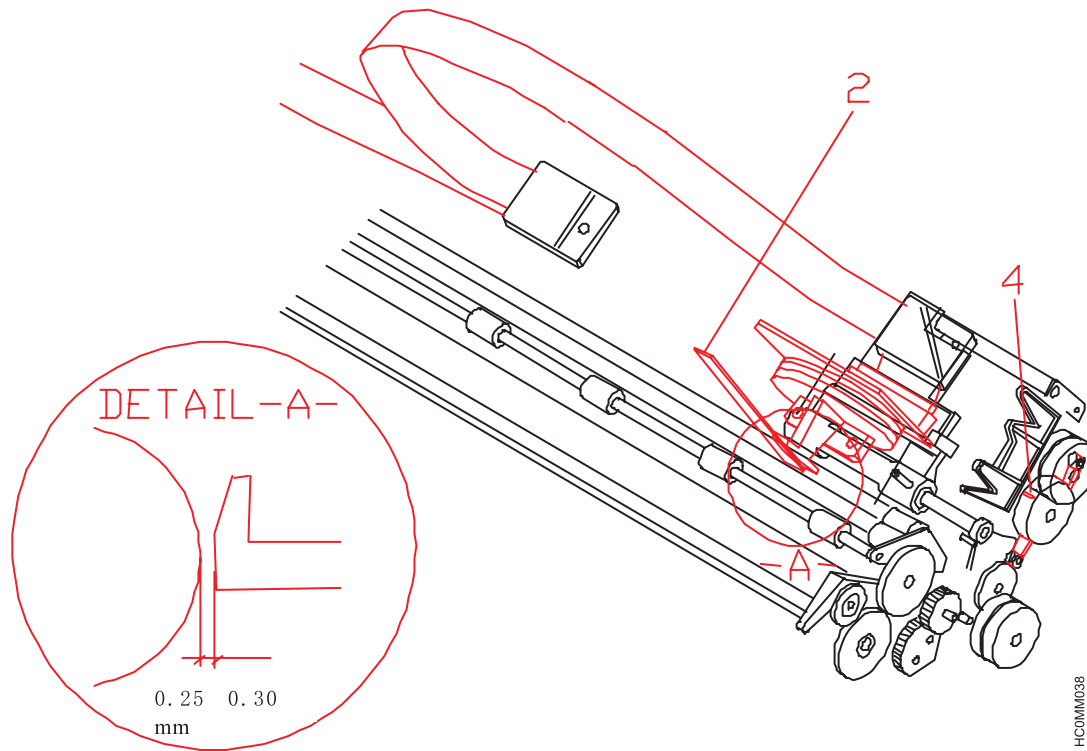

Figure 57. Print Head Gap Adjustment
6. If the printer does not have reference colored points, verify (with the feeler gauge) that the distance between the print head and the platen is included in the range 0.25 - 0.3 mm in any carriage position (item 2 of Figure 57 on page 207).